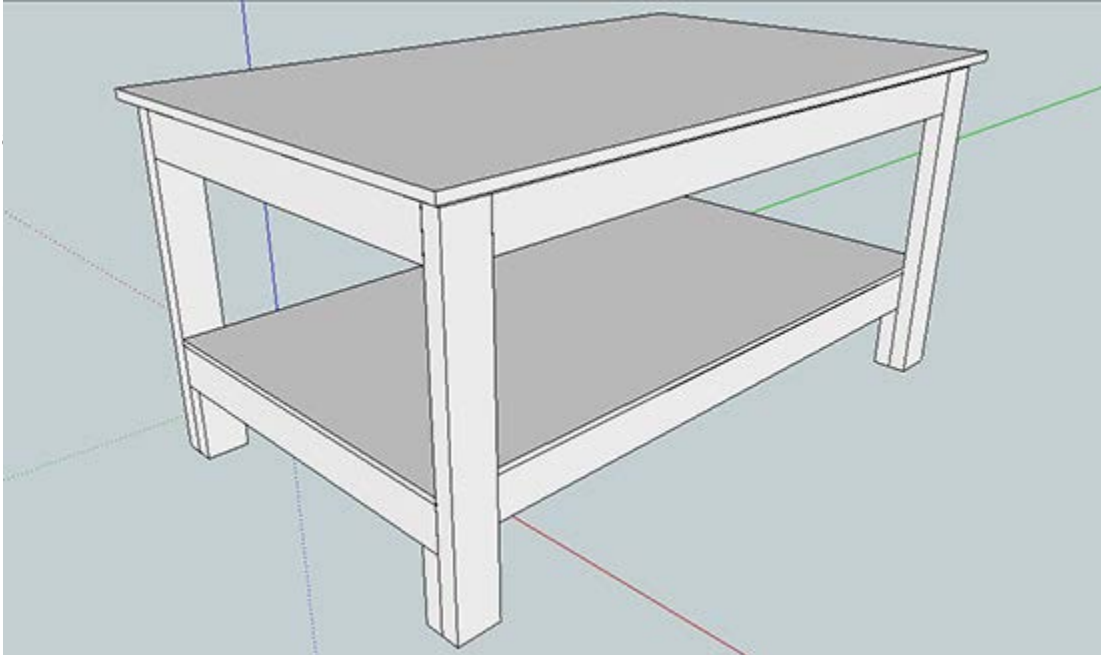

Figure 8: Finished Top Attached
10. The finished top sheet of melamine or MDF can be attached to the table using glue and either screws from below or pocket screws from the side 'F' and 'G' boards (Figure 8). The dimensions for the finished top include a 1" overhang in every direction. If you want to add the Kreg Track, just cut the finished board into two pieces and insert the track between the two sections.